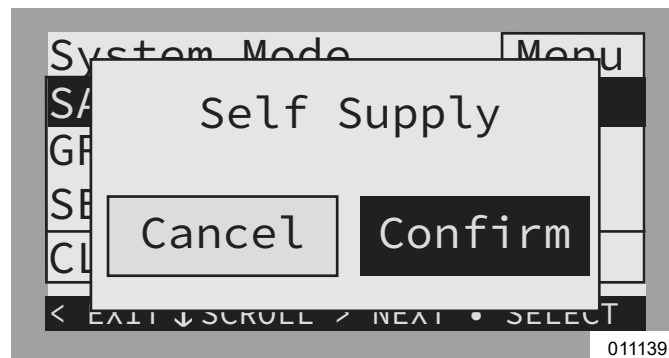

Figure 6-5. Selecting System Modes (3 of 4)
- See Figure 6-5. Arrow right and press the center button to select Confirm.